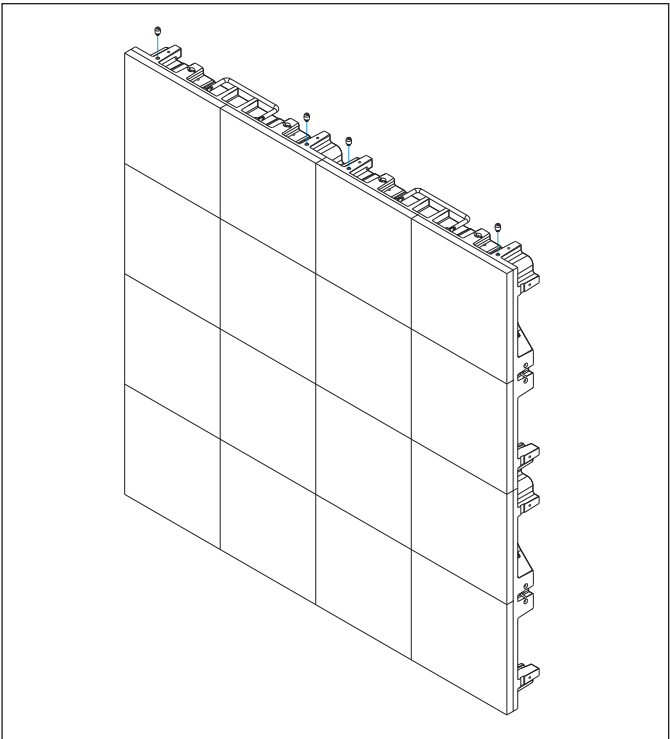

Figure 1: Remove Top Alignment Pins
1. Remove the top alignment pins from the top row of panels. Refer to **Figure 1**.